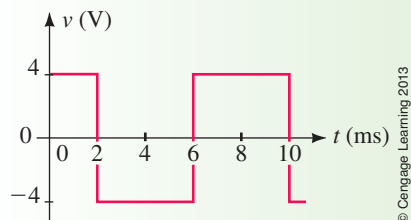

FIGURE 25-21
Write the Fourier expression for the first four nonzero sinusoidal terms of the waveform shown in Figure 25-21.
Step 3: The waveform of Figure 25-21 leads the square wave of Figure 25-13 by an amount equivalent to $t = 2 \text{ ms}$. This corresponds to a phase shift of